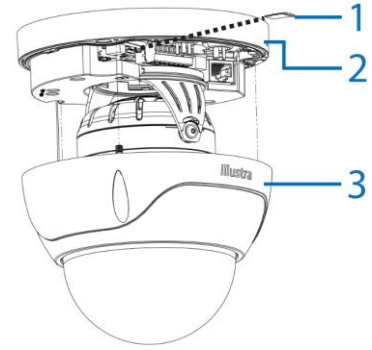

Figure 6
- Unscrew the three screws on the camera top cover (3) (Figure 6) and remove the top cover from the camera base (2) (Figure 6).
- Insert or remove the SD card (1) (Figure 6) from the SD card slot.
- Unscrew the three screws on the camera top cover (3) (Figure 6) and remove the top cover from the camera base (2) (Figure 6) to access the internal buttons and connections.